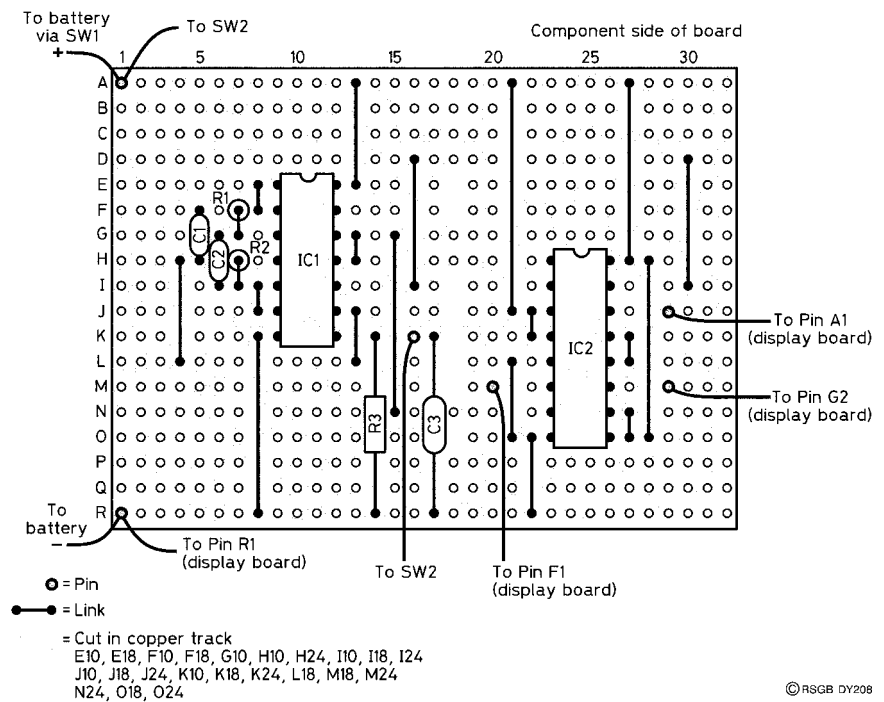
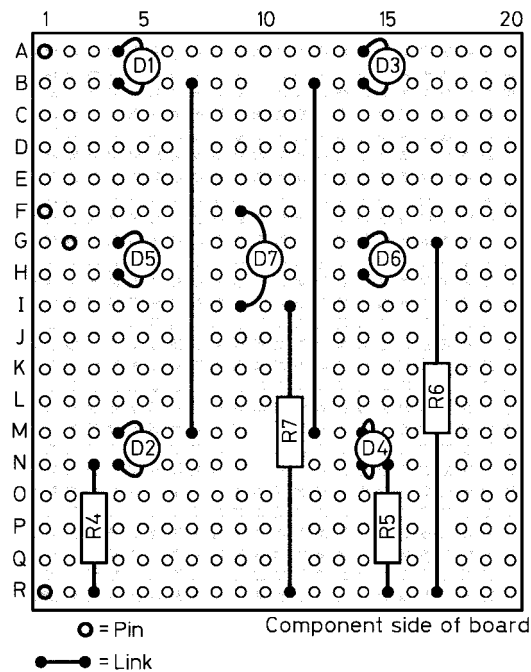
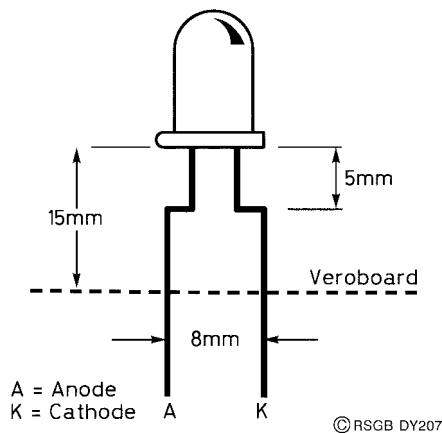

Figure 2 Main board, component layout
Figure 3 Board for the six LEDs
Figure 4 D7 lead bending
Two pieces of Veroboard (of the strip type) are needed – one for the main circuit (Figure 2) and the other for the display LEDs (Figure 3). The display board is easier to build, so we will do that first. It measures 20 holes by 18 strips.
Cut the tracks as shown in Figure 3, using a 3 mm ($\frac{1}{8}$ inch) twist drill rotated between thumb and forefinger. Insert and solder the Veropins, resistors and the wire links. Then solder the LEDs in place, making sure their polarities are correct. The LEDs are mounted proud of the board (Figure 4, which will help when you come to fix the board into a case.
The main board measures 32 holes by 18 strips. As before, remove the tracks in the places shown in Figure 2. Note that track 'L' is *not* broken under the position for IC2. Solder in the IC holders and the links. Solder in R1 and R2 vertically, and R3 horizontally. Then solder in C1, C2 and C3; these all being electrolytics, check their polarities. Solder in the Veropins and prepare the connections to those components not on the main board, using stranded, insulated wire. Check the circuit carefully, and read the handling precautions given earlier before carefully inserting the two ICs.
- Disconnect the lead to D7 on the main board (marked ‘to pin F1’ on Figure 2). Touch the lead on to the positive supply rail. D7 should light. Now transfer this lead on to pin 4 of IC1. If it flickers, then the oscillator is running (which it should).